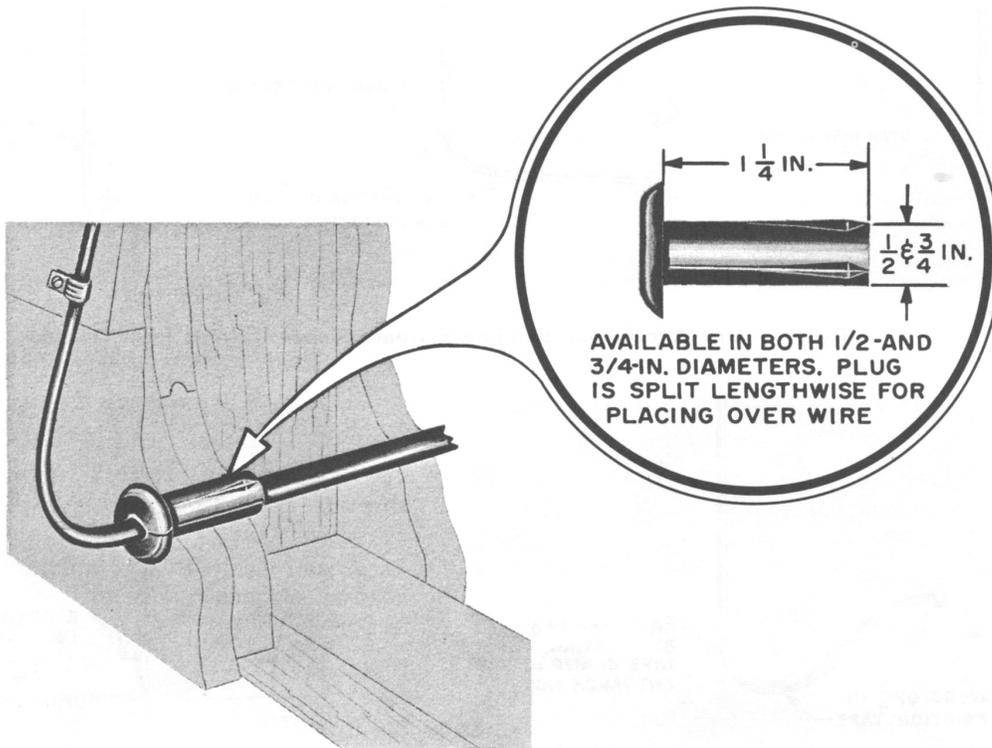

Fig. 19 – B Entrance Plug
13.02 The B entrance plug (Fig. 19) is intended primarily for use with NP, C, or E drop wires and is furnished in $\frac{1}{2}$ - and $\frac{3}{4}$ -inch diameter sizes.